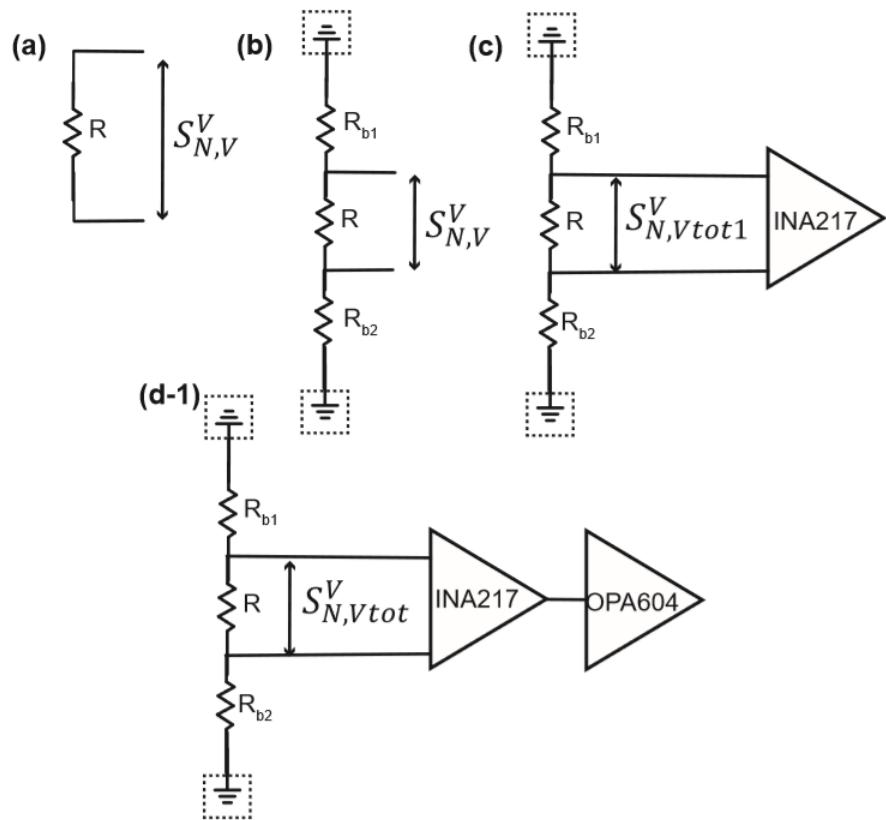

Figure 5 : Representation of the configurations of Question 4
Investigate the figure in Appendix 5.2. This is the measurement setup for the noise measurements of resistors. Create a table with the following values in $\text{V}/\text{Hz}^{1/2}$ for each resistance (10Ω , 30Ω , 100Ω , 300Ω ... $3 \text{ M}\Omega$, $10 \text{ M}\Omega$): (You can use the simplified figure below to understand which component to consider in the calculations. Figure 5(a) corresponds to question (a), and so on...)
6. Why for small and large resistor there is deviation from the expected behavior? How can you model such a behavior at the block diagram level of the amplifier? (Hint: take a look back at figure 5 (d-1))